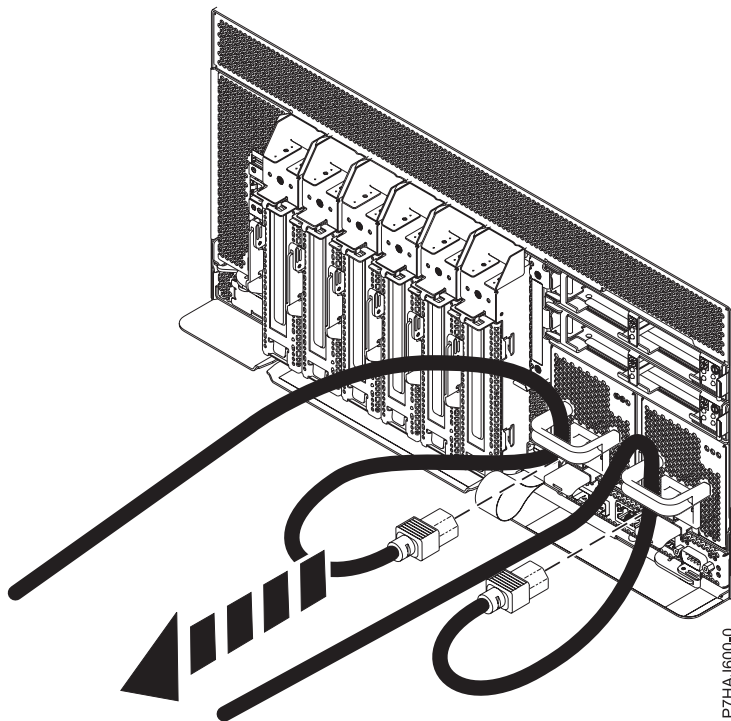

Figure 5. Removing the power cords
3. Disconnect the power cords from the system unit as shown in Figure 5.